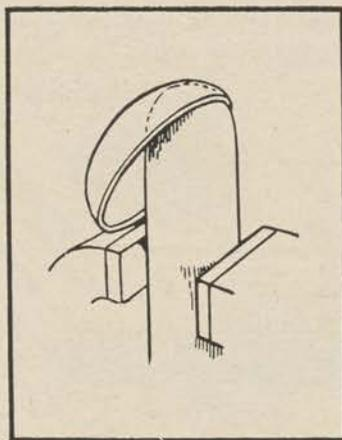

Figure 99.
a. While shallow bowls can be shaped most easily in hollow molds of the type described above, they may also be hammered over rounded stakes of metal or hard wood. The technique requires more skill, but has the advantage of making possible a great variety of forms with very simple equipment (fig. 99).